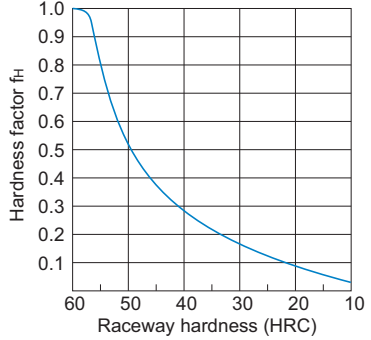

Fig.8 Hardness Factor (f_H)
- P_T : Calculated load (lateral direction) (N)
- f_H : Hardness factor (see Fig.8 on **A1-67**)